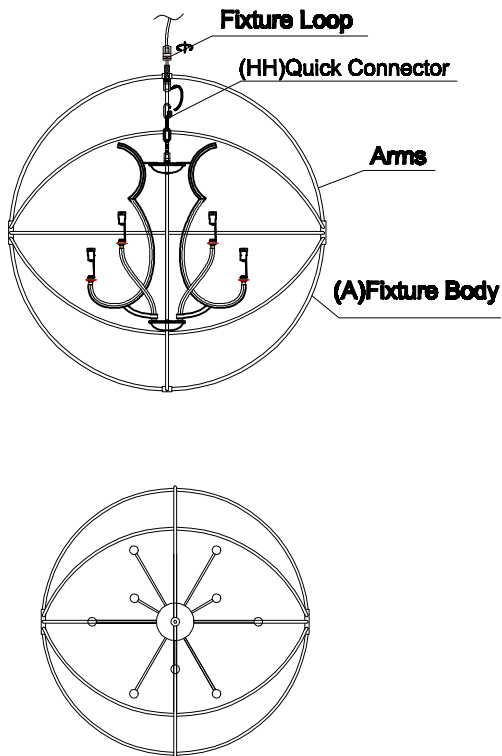

Figure 1
D. Adjust the Arms of Fixture Body A like Figure 1, thread the power cord . Through the holes on Arms D . Use the Fixture loops to fix the whole cage, Then connect the Fixture Body A with the cage with the Quick Connector HH.